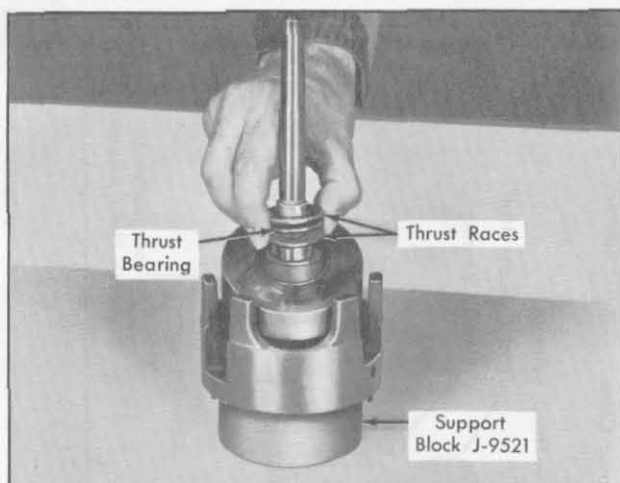

Fig. 1-81 Removing Front Thrust Races and Bearing bearing from shaft. Discard races and place bearing in rear bearing slot in Parts Tray.
11. Remove front combination of thrust races and thrust bearing from shaft, Fig. 1-81. Discard races and place bearing in front bearing slot of Parts Tray.